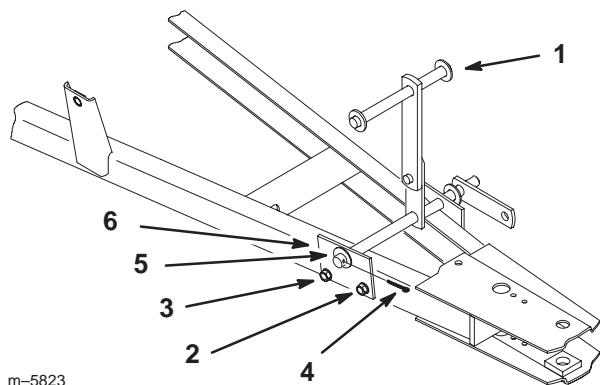

Figure 8
6. Install the front attachment assembly to the frame of the blade with 2 bolts (3/8 x 1 in.) and 2 lock nuts (3/8 in.) (Fig. 8).
7. Install the lift plate to the frame of the blade and front attachment assembly with 2 bolts (3/8 x 1 in.), 2 lock nuts (3/8 in.), a flat washer and a cotter pin (Fig. 8).